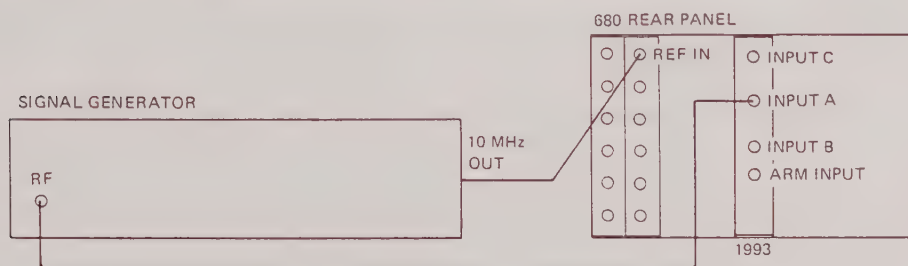

Fig. 6.12 Connections for Minimum Time Interval PVP
- (1) Connect the signal generator as shown in Fig. 6.12.